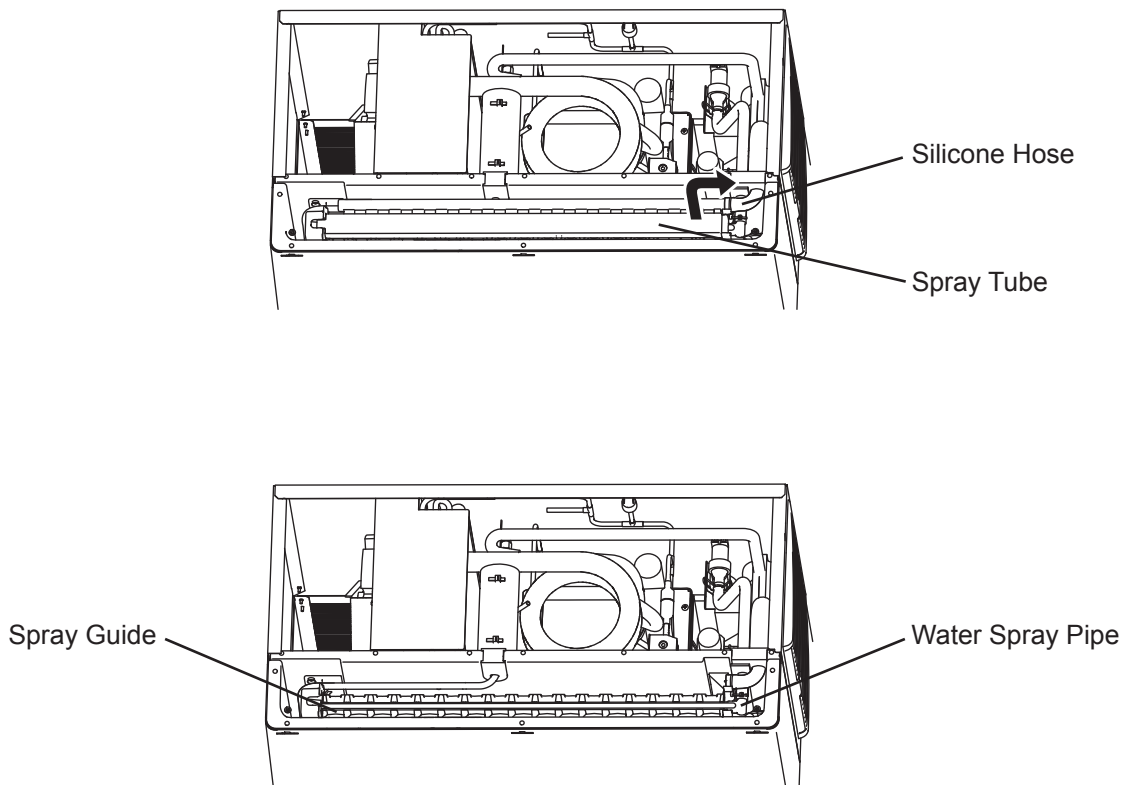

Fig. 20
- 4) Remove the silicone hose and spray tube. See Fig. 20.
- 5) Remove the water spray pipe and spray guide from the evaporator plate. See Fig. 20.